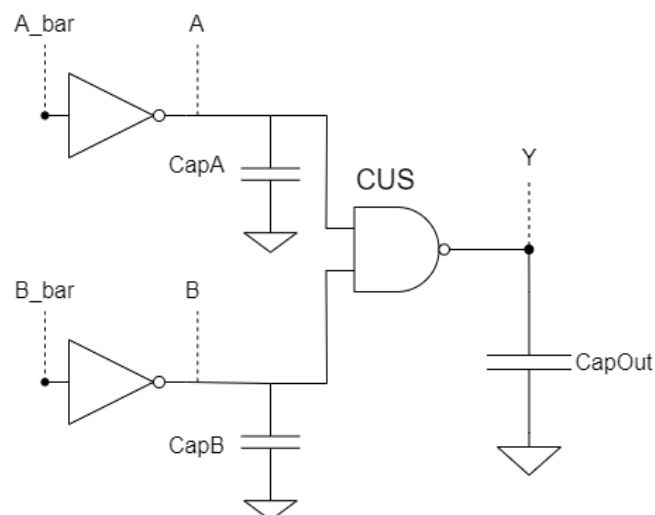

Figure 2
- c. To create different rise/fall times at A and B inputs, you can create a simulation variable called "transition" as we applied in Prelab B before. You can also try another method if you want to use a vector file instead of the "Stimuli". In this method you need to add input capacitances to control rise/fall time at A and B pins. This method is shown below in Figure 2. You need to vary the capacitance value from 0 fF to 1 fF to see the effects of input rise/fall time. **Please either choose the blue method or red method. This change is applied only to observe CellRise and CelFall delays.** You may sweep this value between 1p and maximumValue (such as 100p). Choose the number of steps and choose the maximum value yourself.